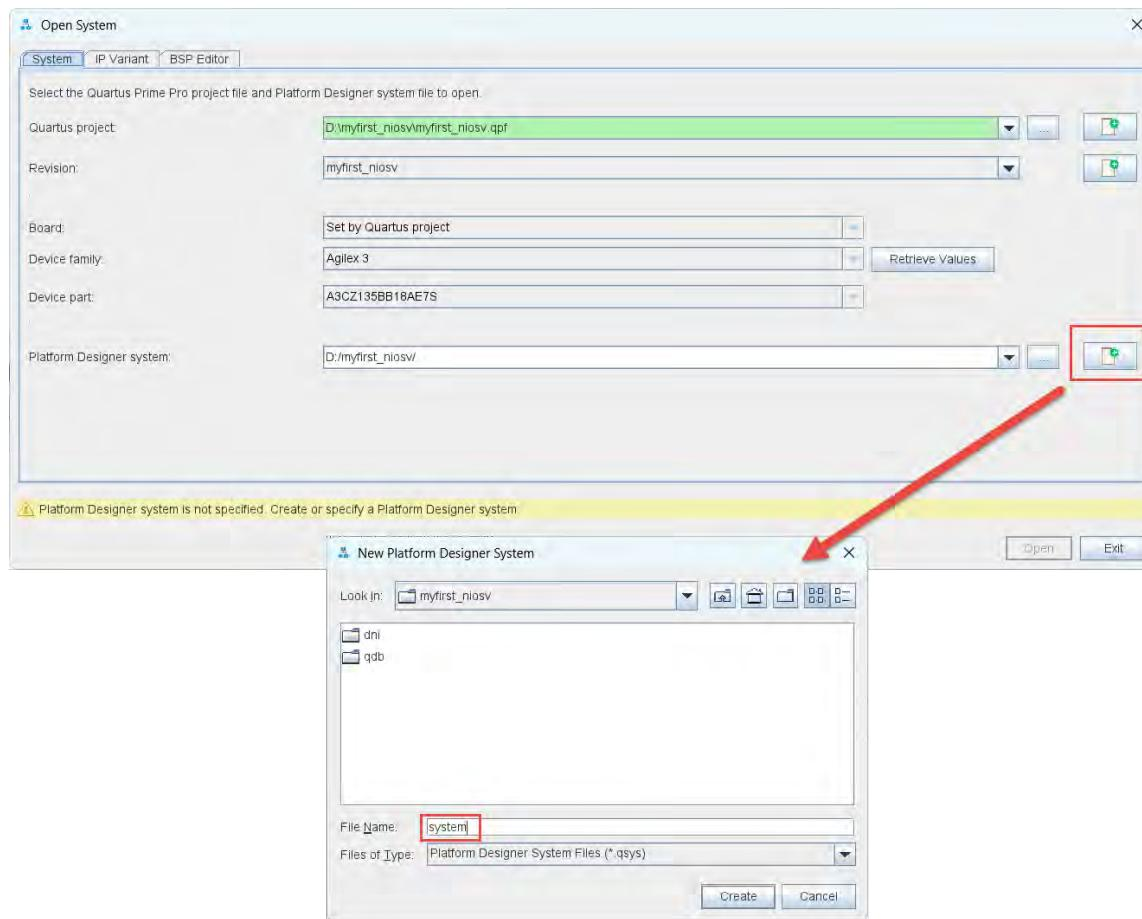

Figure 2-6 Create New System [1]
2. Click the Create New Platform Designer System icon and name the new project system "system" (refer to Figure 2-6).